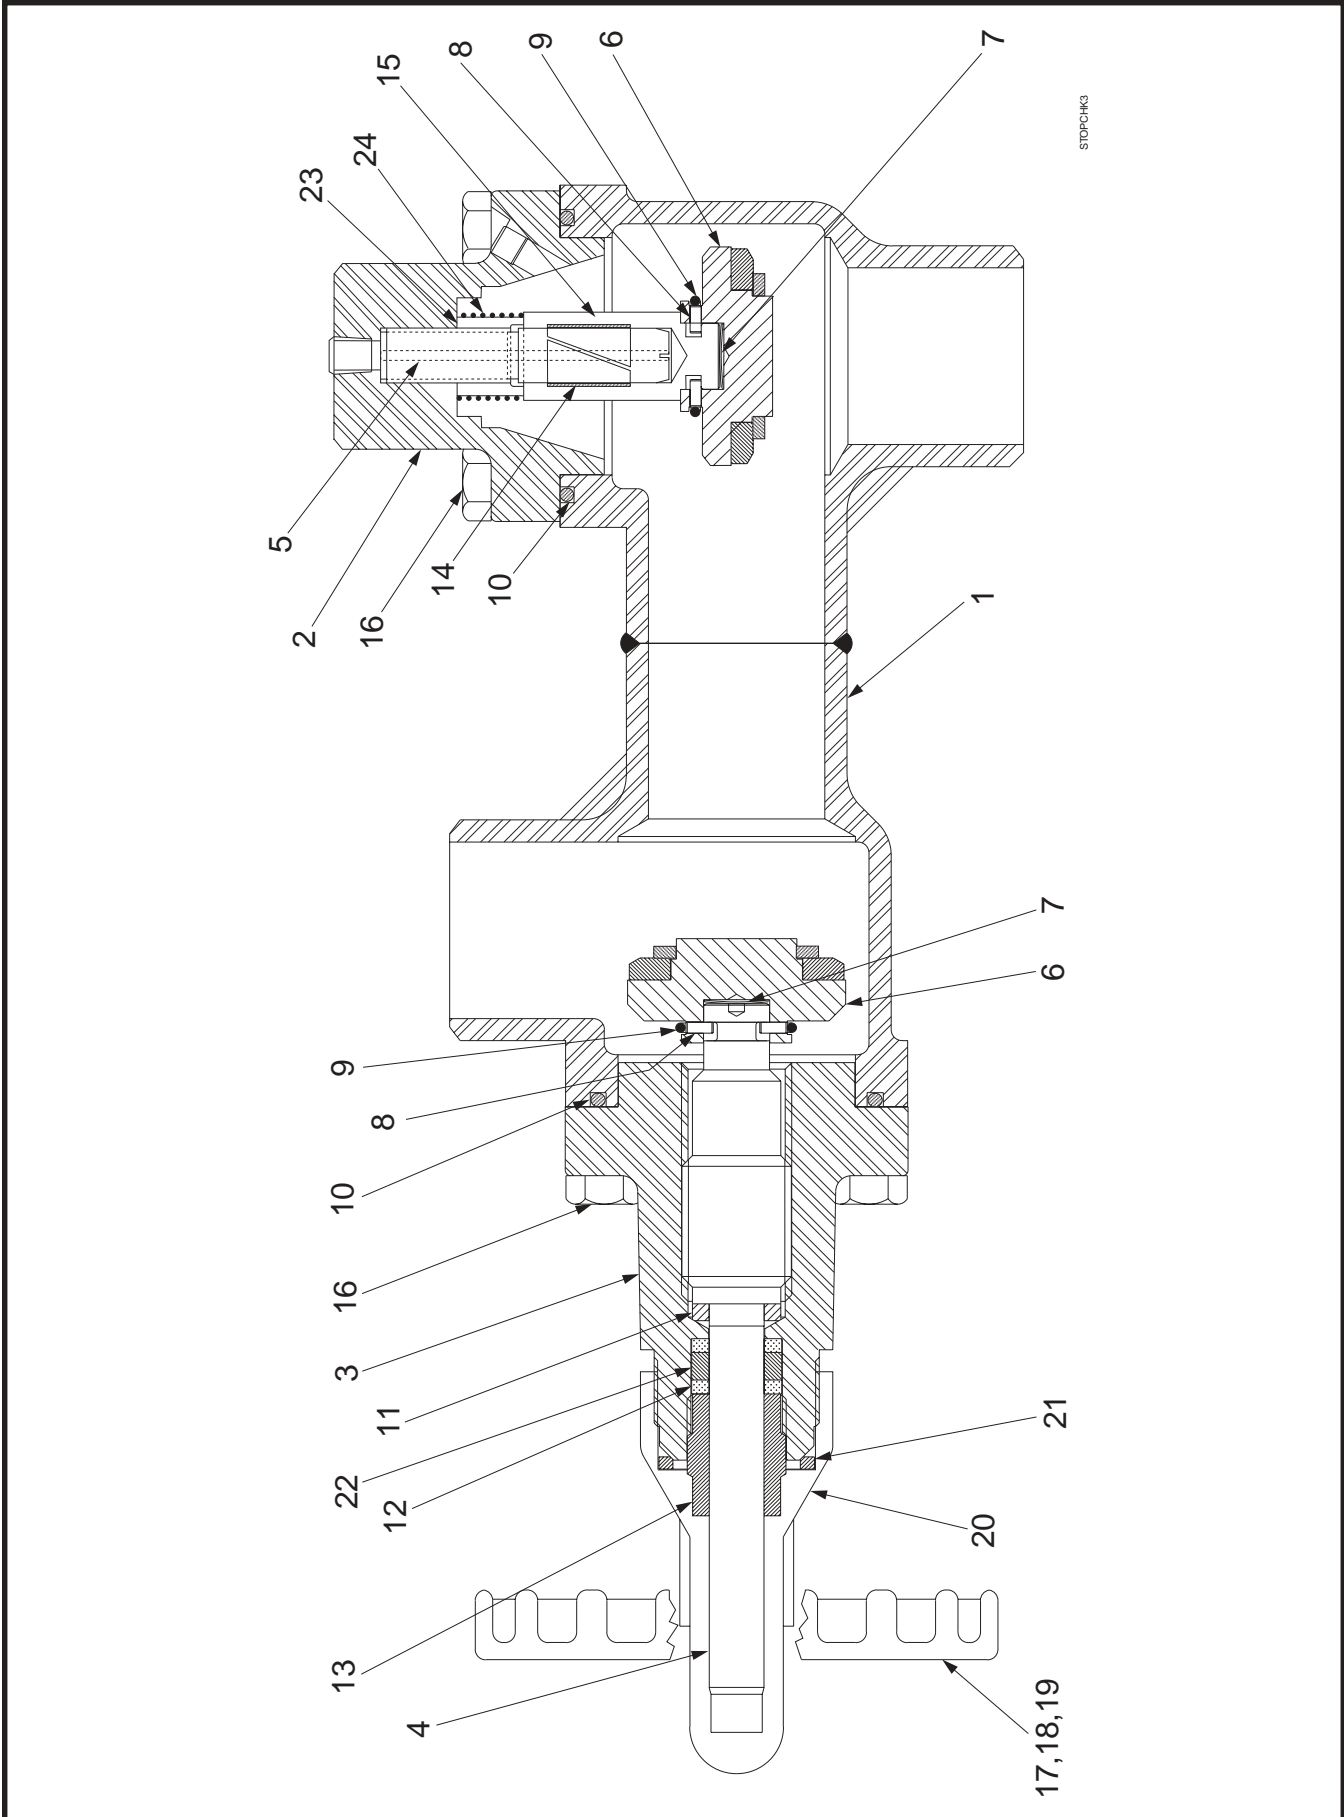

Figure 20. 3" Discharge Stop/Check Valve Assembly, RXF 24—50 (Frick).
*Note: For Check Valve parts see Figure 20.